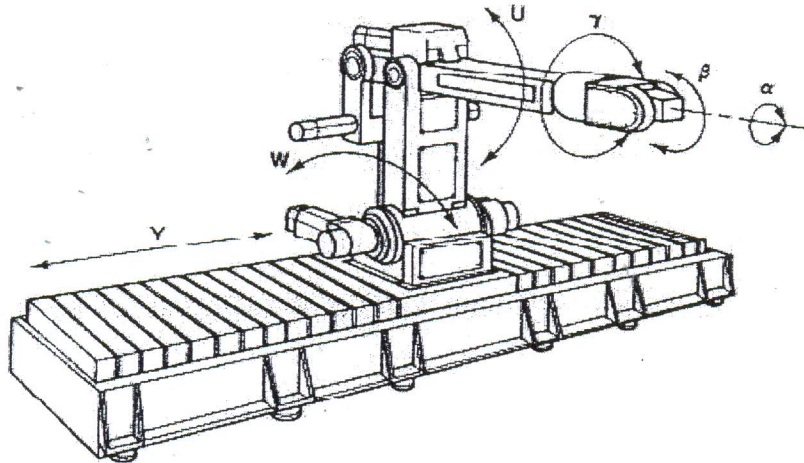

Figure 4: Elements of robot
- (a) Based on the example of the robot arm given in the **Figure 4**, answer all questions below: